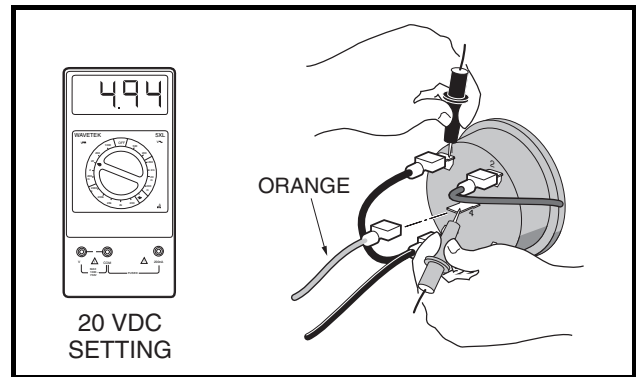

Figure 11-40 Fuel Gauge Voltage Test - Terminal 4
9. The orange wire should remain disconnected for this step. Place the black probe of the multimeter on the (1) terminal of the fuel gauge/hour meter and place the red (+) probe on the (4) terminal of the fuel gauge/hour meter (**Figure 11-40, Page 11-35**). The voltage reading should be approximately 4.94 volts. If the reading is incorrect, replace the fuel gauge/hour meter.